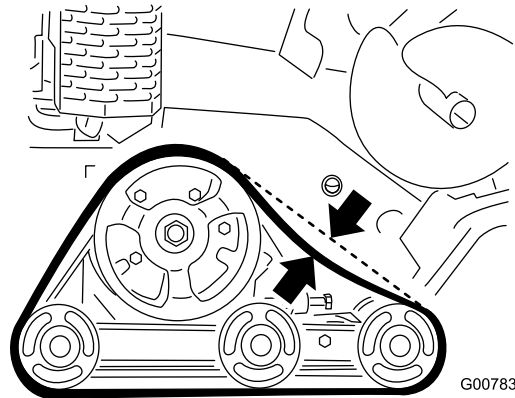

Figure 53
9. Beginning at the drive wheel, coil the new track around the wheel, ensuring that the lugs on the track fit between the spacers on the wheel (Figure 53).
10. Push the track under and between the rear and center road wheels (Figure 53).